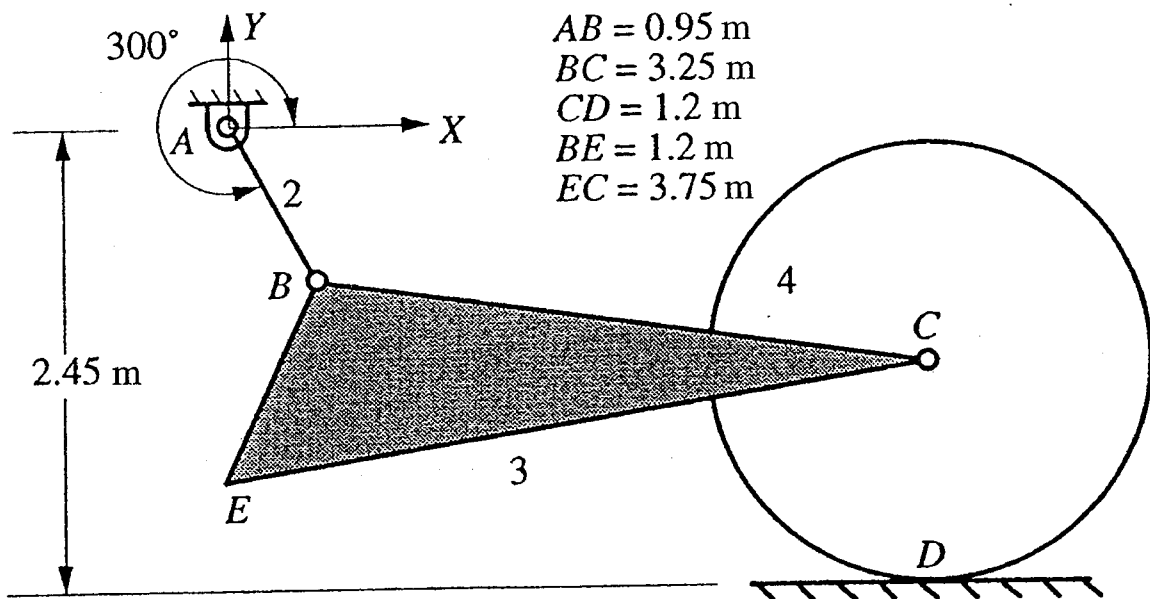

Figure 3
3. For the mechanism shown in Figure 3, assume that link 4 rolls on the frame (link 1) without sliding. You may also assume that Figure 3 is a scale drawing of the mechanism. If link 2 is rotating clockwise with a constant angular velocity of 10 rad/s, determine: